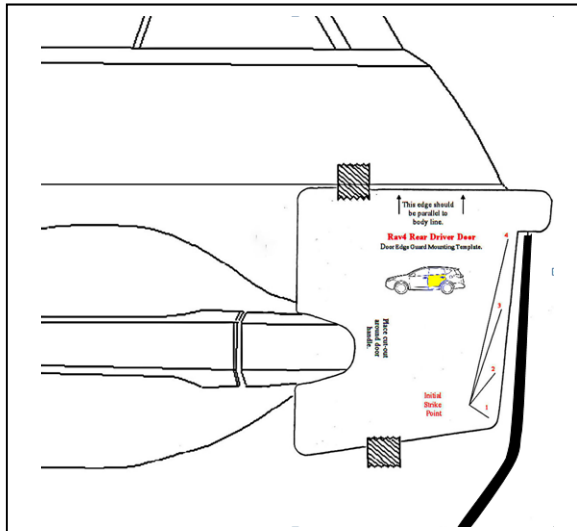

Fig. 1-4
- (3) Align the top edge of the DEG (labeled Rear Driver with Green sticker), with the lower edge of the template alignment notch as shown (Fig 1-4).
NOTE: The top of the DEG can be identified by matching the profile of the DEG to the door profile (Fig 1-4).